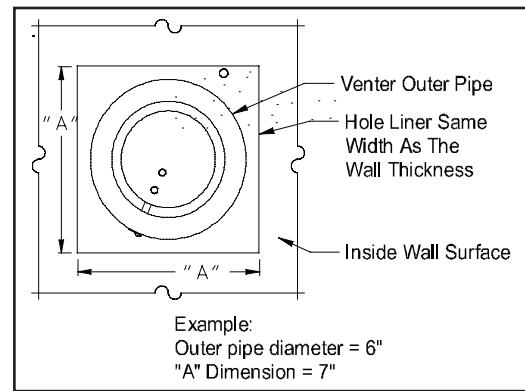
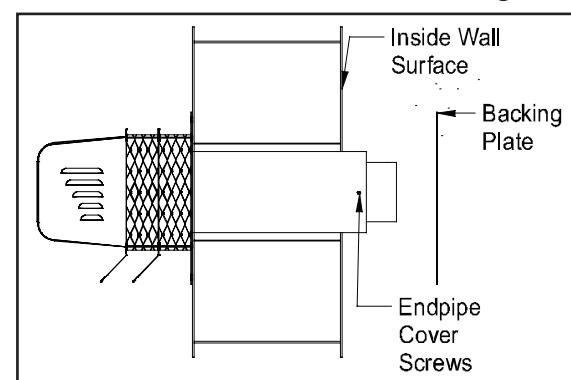

Figure 1
Figure 3
3. After determining the location of the venting system termination point (See Diagram A), cut a square hole through the wall 1" larger than the outer pipe diameter of the power venter. (See Figure 1)
4. Seal the back side of the base plate around the outer pipe of the venter and the conduit with a bead of high temperature silicone sealant. (See Figure 3) Mount the power venter through the wall, keeping the outer pipe centered in the hole. (See Figure 1) Fasten the power venter to the outside wall with appropriate fasteners. Seal the edges of the power venter base plate to the wall with a high temperature silicone sealant.
NOTE: If mounting the power venter through a combustible wall material and the flue gas temperature is above 400°F at the power venter inlet, line the square hole with a piece of corrosion resistant sheet metal or non-combustible material. The liner piece should be the same width as the wall section. (See Figure 1) The power venter has a maximum flue gas temperature of 550°F at the venter inlet. For installation through walls over 8" thick, use an SWG Series Extension Kit, Model PEK-4HD.
5. Remove the end pipe cover screws on the sides of the outside pipe and remove end pipe cover. Then mount the backing plate over the outer pipe and route the flexible conduit and pressure switch tube through the holes provided in the backing plate. Fasten the backing plate to the inside wall with appropriate fasteners. (See Figure 3) Re-install cover and end pipe screws.